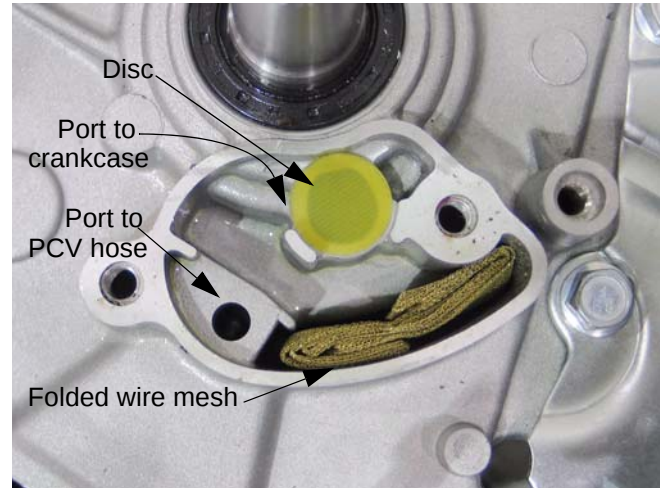

Figure 11.10
- 11.10. The folded wire mesh in the chamber also helps separate the oil from the air. See Figure 11.10.